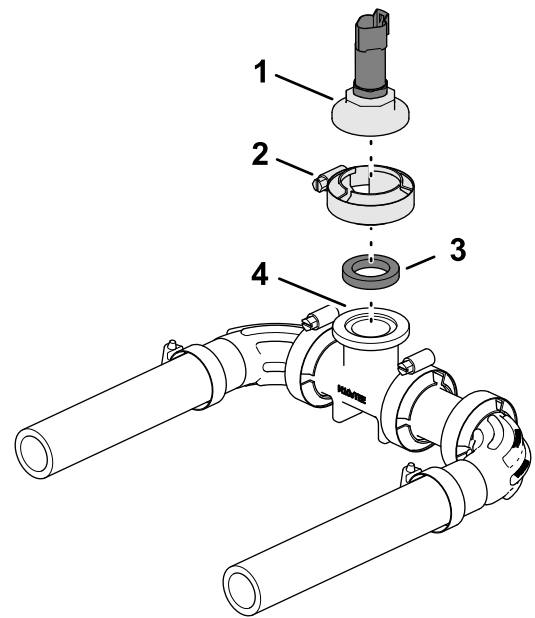

Figure 57
- Secure the fitting cap and gasket to the T-fitting with the flange clamp (Figure 57).
- Align the ported-fitting cap with pressure transducer and gasket to the T-fitting flange of the manifold (Figure 57).